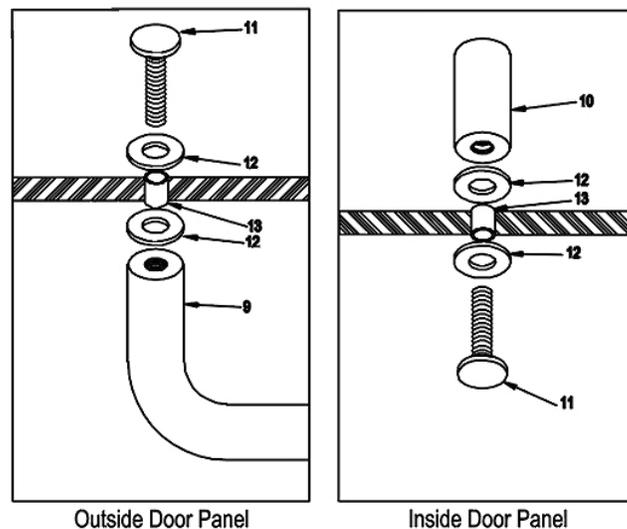

FIGURE 3
Place a nylon towel bar/pull washer on the towel bar/pull screw (11) and secure towel bar in place on both ends. Install the pull the same way the towel bar was installed. Use hole in fastener to tighten (See Figure 3).
10. Secure bumpers (4) in place with 6-32 x 1/2" screw SMS (5). NOTE: Glass panels close into the recessed portion of bumpers. The recess is toward the inside of the tub on the shower head jamb, and toward the outside on the other jamb. From INSIDE of unit, drill #31 holes through header and into wall jamb, 11/16" from bottom of header. Secure header to wall jambs with two #6 x 3/8" screws (14).